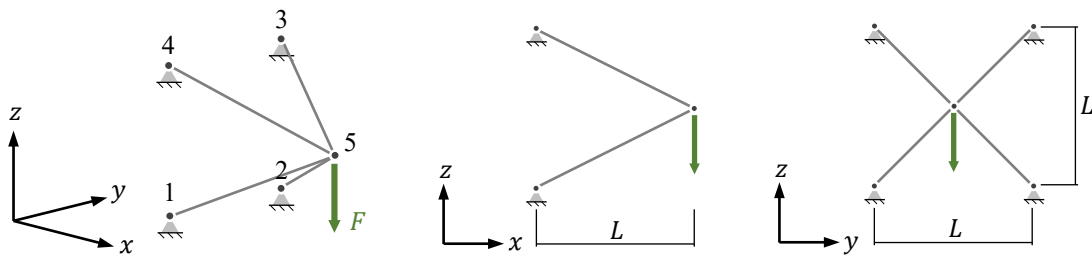

Figure 2. Test problem for 3D bars code (choose your own values for the parameters).
- A) Modify the MATLAB® code for Assignment 1 to adapt it to the 3D case and validate it with the structural assembly given in Figure 2 (compare numerical with analytical results).